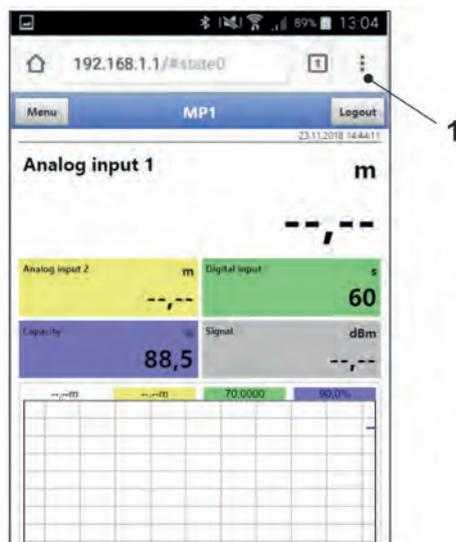
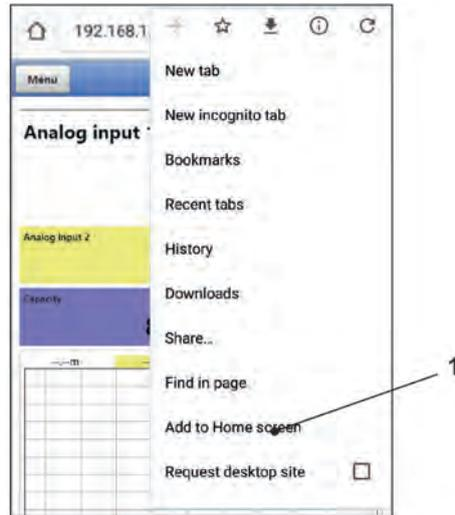

Fig. 30-6 Indication of NFM display in the browser
Fig. 30-7 Add to start screen
7. Enter the IP address "192.168.1.1" in the address field and open. After successful connection the display of the NivuLevel Mobile (Fig. 30-6) is shown.
8. To set up a link on the "Home screen" (for direct access), tap the icon for more tabs (Fig. 30-6 Pos. 1) and settings and select "Add to start screen" (Fig. 30-7 Pos. 1).